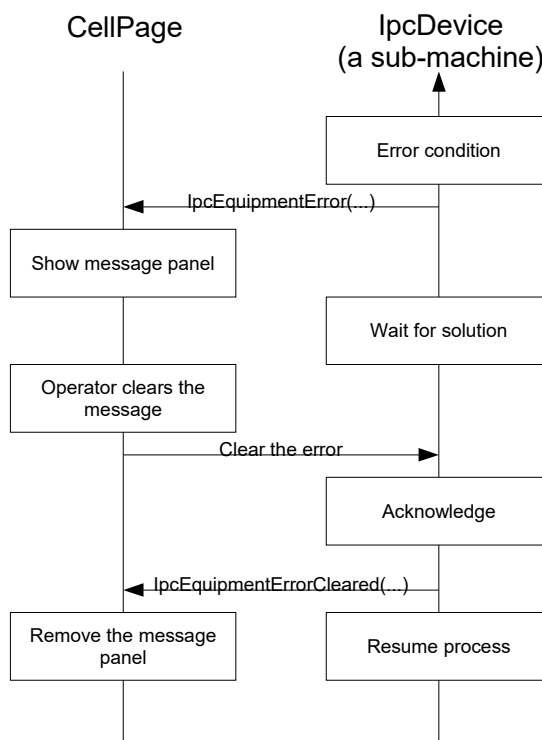

Figure 6: Error handling
**Warning: implementation details!** The error panel is typically connected to the TS1 "PLC" through events defined in IPC-2541 standard. When an *IpcDevice* has an error condition it will raise *IpcEquipmentError* event that is routed through controller (Figure 6). The cell page will hook itself to this event as handler, when the event is fired the page will show the message panel. The information to display and buttons available for each message panel are described in the event arguments. Similarly, warning messages are received through *IpcEquipmentWarning* and alarms through *IpcEquipmentAlarm* event.